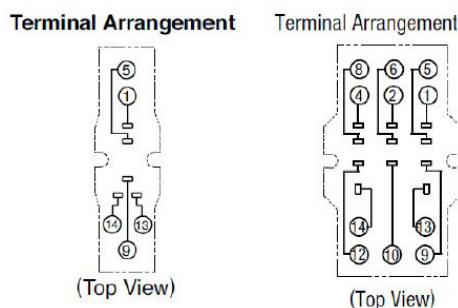

Figure 2 - Relay Configuration
Figure 2 shows the drawing of the two relays being used. The numbers correspond to actual numbers on the relays. Positions 1, 2 and 4 are normally closed (NC) contacts. Positions 5, 6 and 8 are normally open (NO) contacts. Positions 9, 10 and 12 are power contacts. Positions 13 and 14 are energize contacts and will switch the relay once the circuit is energized.